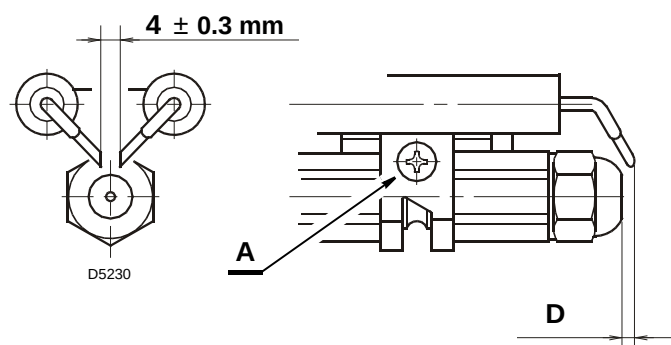

Fig. 20
- Hook the burner to the flange (1), by removing the blast tube (2) after loosening the fixing screws (3).
- Remove the electrodes assembly (5) from the nozzle holder (4) after loosening its fixing screw (A, Fig. 20).
- Screw the nozzle (6).
Before removing or assembling the nozzle, loosen the screw (A, Fig. 20) and move the electrodes ahead.